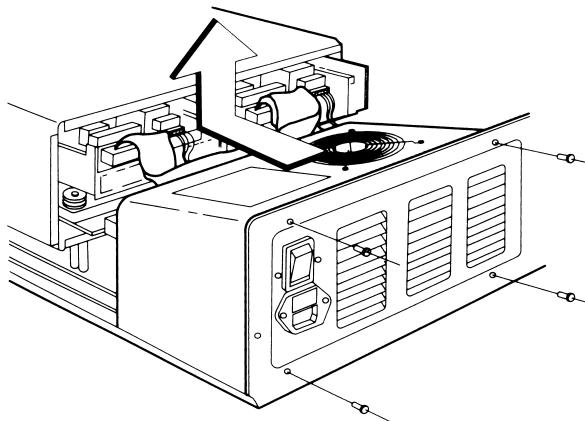

Figure 7-7. Removing the Power Supply Assembly.
(Figure 7-7).
4. Slide the power supply 1/2 inch to 1 inch toward the drive housing (Figure 7-7). Be sure to clear the tabs on the bottom of the chassis. These tabs hold the power supply assembly in place.